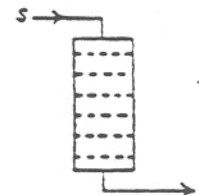

FIG. 2. Types of 'closed' continuous culture systems
Fig. 2 Steady-state relationships in a single-stage continuous culture (theoretical). The steady-state values of substrate concentration, cell concentration and output at different dilution rates are calculated from equations (14) and (15) for an organism with the following growth constants: $\mu_m = 1.0 \text{ h}^{-1}$, $Y = 0.5$ and $K_s = 0.2 \text{ g/L}$; and a substrate concentration in the inflowing medium of $S_0 = 10 \text{ g/L}$.